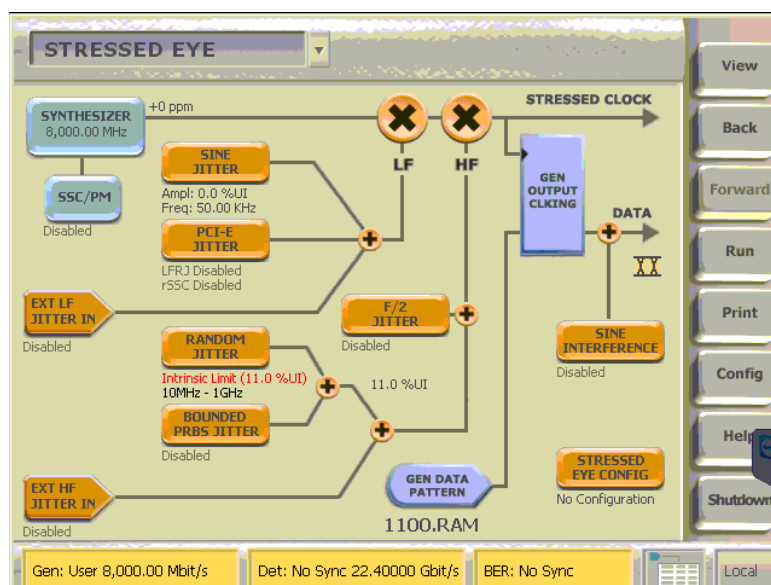

FIGURE 64. BERTSCOPE JITTER SETUP
4. Set the SJ Enable, and set the SJ Amplitude to 0.0mV. See Figure 64.